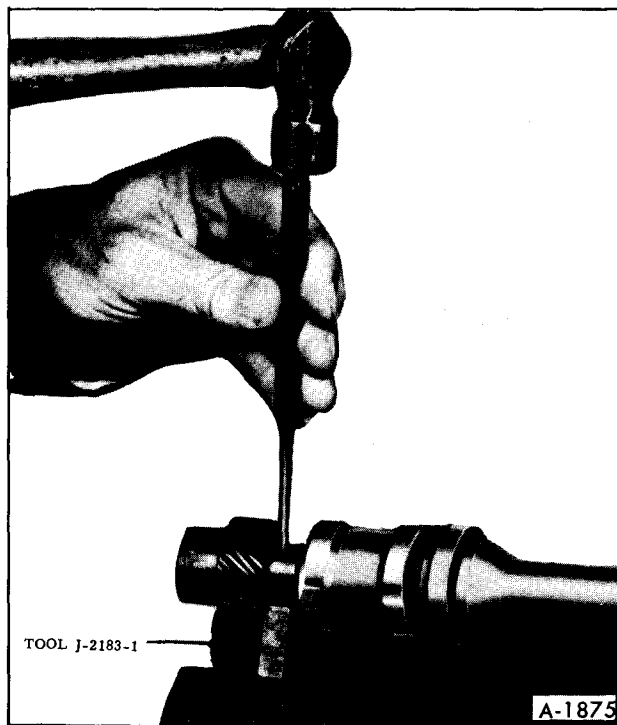

Figure 43—Removing Roll Pin
2. Drive out the roll pin. (figure 43)